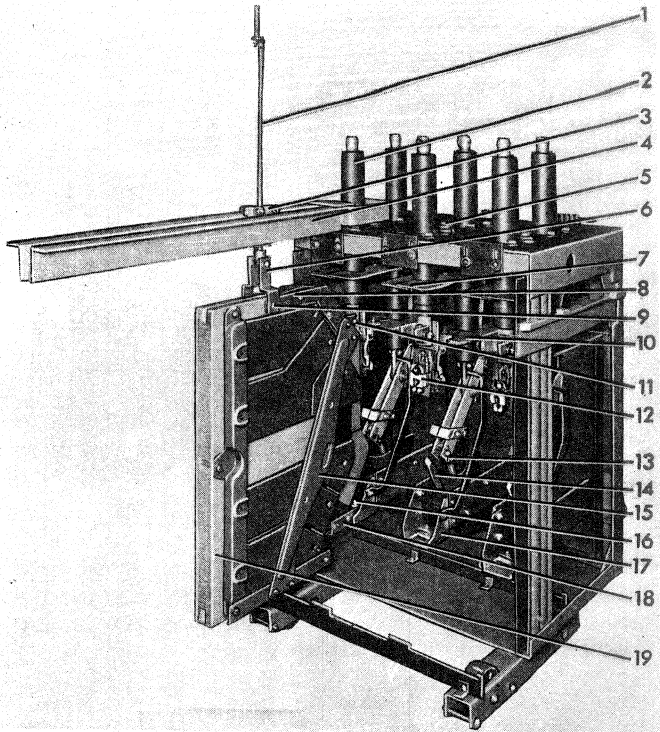

Figure 16. (8034809) Interrupter Removal
Refer to Figure 16. An arc chute lifter is normally furnished with the metal-clad switchgear for use in removing and replacing the interrupters of the AM-13.8-500 breakers. When the lifter is not available an overhead crane or portable hoist may be used. The arc chute lifter is assembled to the top plate of the breaker as shown in the reference figure using the bolt (5) located between the front and rear bushings. Before assembling the lifter on the breaker it is necessary to remove the box barriers.
Tighten the supporting bolts (11 and 16) Figure 16. These bolts serve as both the electrical and mechanical connections between the bushings and the arc runners within the interrupter. Check that the movable arcing contact (14) passes between the probes on the upper arc runner (5) Figure 19 without touching.